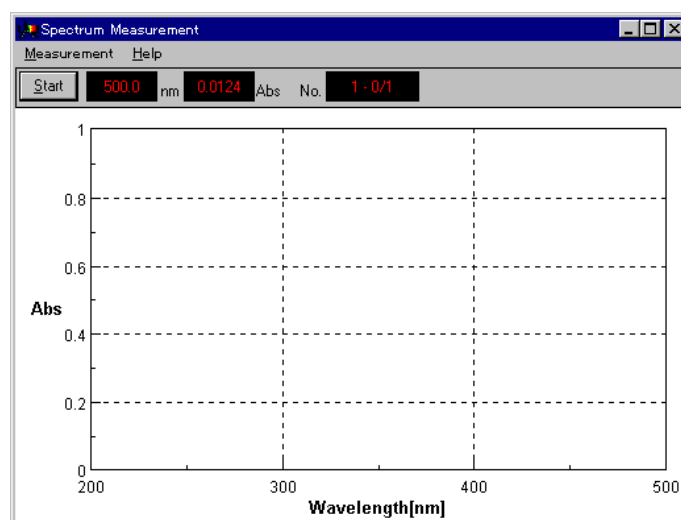

Figure 2.5 [Spectrum Measurement] display
- (3) Double-click a program on the menu. The selected program starts and the program window appears. The spectrophotometer also starts automatically, but needs about two minutes to warm up. Messages appear throughout the procedure. For example, when the [Spectrum Measurement] program is started, the [Spectrum Measurement] display shown in Fig. 2.5 appears after the display